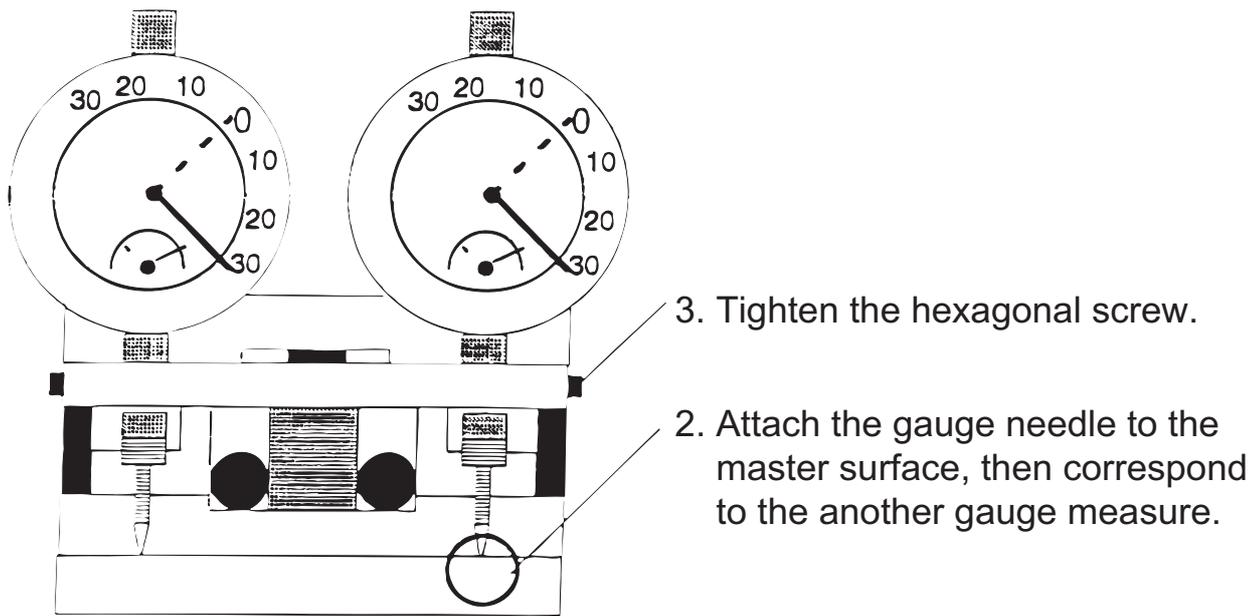

Figure 4-7. Dial Gauge set Up 2
*The parallelism is adjusted so that the difference between the distances (from the rear carriage guide shaft to the platen measured at the two positions shown in Figure 4-7) is less than  $\pm 0.015$  mm. Since this value is extremely small, you must use the two dial gauges, dial gauge base, and dial gauge master supplied by EPSON. Do not adjust the parallelism using any other method.*